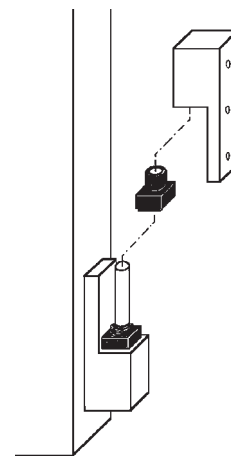

Fig. 2 Door hinge
5. Place the hinge spacers on the hinge pins (Fig. 2). Mount the doors in closed position. Open the doors and check that they lift when opening.